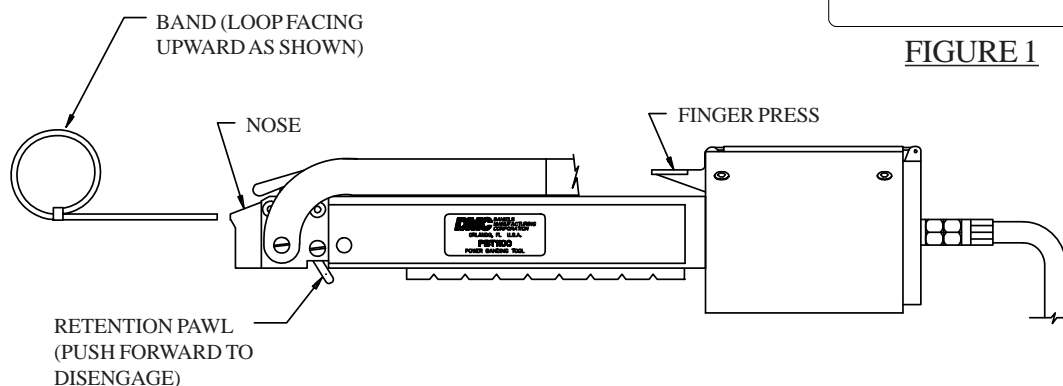

FIGURE 2
- 1.3 Activate and hold down the finger press in order to allow the shuttle assembly to move forward. While holding the finger press, insert the band into the nose of the tool with the band loop oriented on the upper side of the nose (see Figure 2). Release the finger press to allow the shuttle assembly to move back to its original position, ensuring that the band has been captured by the gripping mechanism.